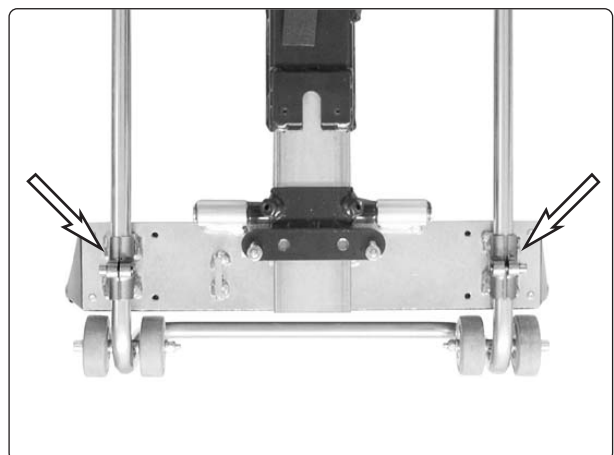

Fig. 35. For chairs without stand-up driving, the supporting frame can be adjusted once the two screws have been loosened.
2. Adjust the supporting frame under the foot plate as close to the foot plate as possible, but make sure that the support wheel can rotate freely. Loosen the two screws, adjust the supporting frame to a suitable height and then tighten the two screws again, see Fig. 35.